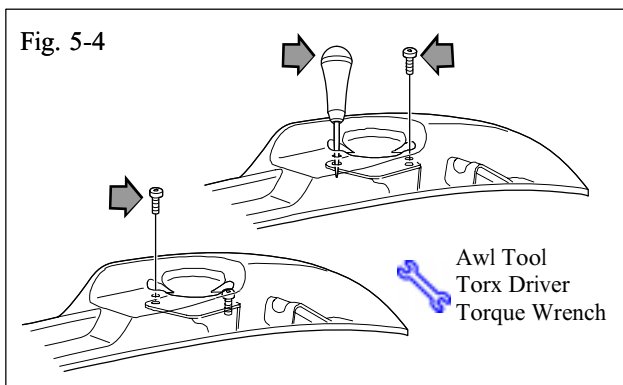

Fig. 5-4
-  (g) Using an awl, center the bracket hole below the access hole in the roof rail. Install first screw and tighten. Install second bracket screw. Torque the 2 short torx head screws to 5.6 N.m (50 lbf-in). (Fig. 5-4)